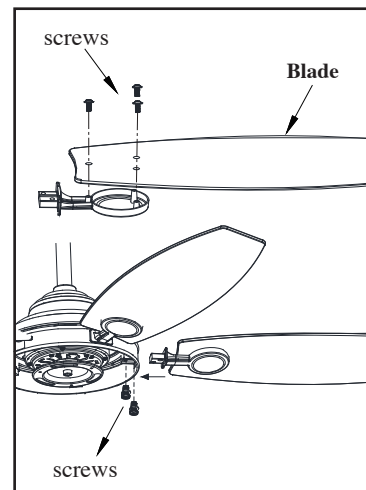

Figure 12
1. Attach a blade to the blade bracket using the screws supplied and tightened firmly. (Figure 12)
2. Attach the blade assembly to the fan motor housing by inserting the blade assembly into slots in the side of the fan motor housing using the screws supplied and tightened firmly. (Figure 12)